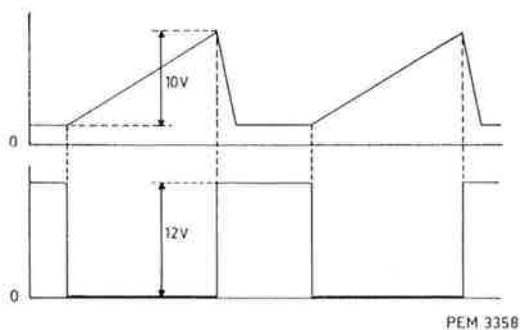

Fig. 1. Output voltages
1. Sawtooth voltage (see Fig. 1)	Positive-going sawtooth voltage Amplitude 10 V_{p-p} . The output is short-circuit proof. $R_i = 6 \text{ k}\Omega$
2. Gate pulse (see Fig. 1)	Negative-going gate pulse Amplitude 12 V_{p-p} . The output is short-circuit proof. $R_i = 6 \text{ k}\Omega$